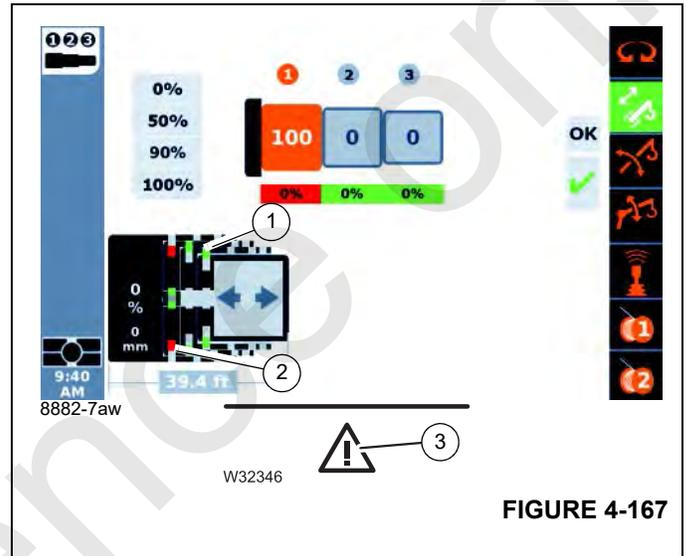

FIGURE 4-167
Current relation of the telescopic sections to each other – section of top view (Figure 4-167).
The image shown in (Figure 4-167) shows the status of the section and cylinder pins. Green (1), indicates that the pin is locked. Yellow shows that it is in an intermediate position. Red (2) is unlocked. Additionally, if the hazard triangle (3) is present, an error exists.